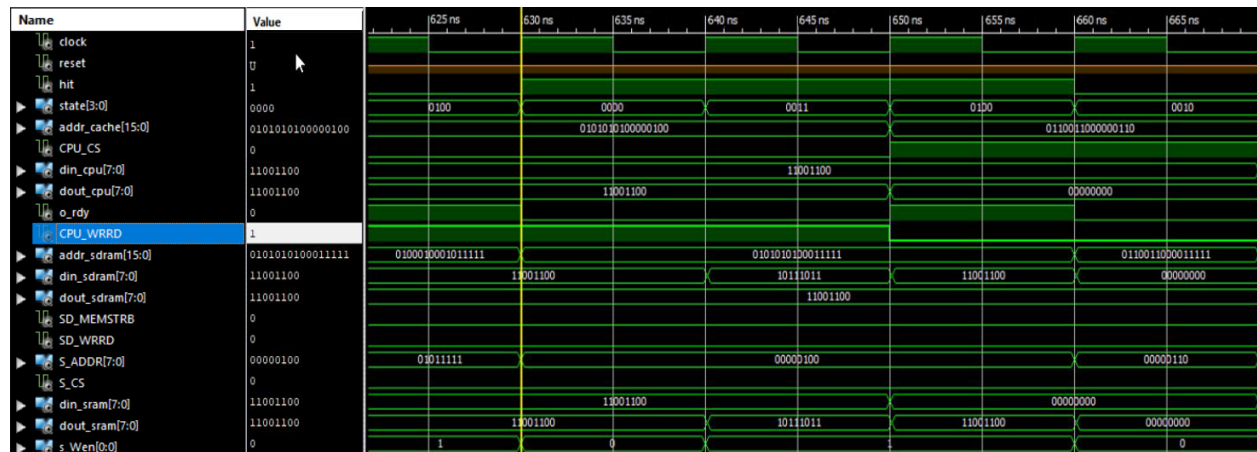

**Figure 9: Process Diagram**
**Figure 9** depicts the process diagram of the cache controller. The process begins with the CPU sending instructions and an address to the cache controller. The cache controller checks the SRAM for a hit or miss. If it is a hit, the controller can read/write to the SRAM. If it is a miss, the controller will check the dirty bit to determine the next steps. If the dirty bit is 0, the SDRAM will write to the SRAM then the cache controller continues to the original instructions of reading/writing the data. Finally, the cache controller notifies the CPU and awaits for new instructions to begin the cycle again. If the dirty bit is 1, then the cache controller will proceed to write the block back to the SDRAM before the SDRAM writes to the SRAM. The remainder steps follow the same final steps of the cycle of reading/writing the data as per original instructions and so on until the beginning of a new cycle.